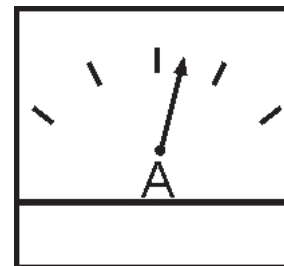

Figure 53. Ammeter (Load)
16. Observe the generator's ammeter (Figure 53) and verify it reads the anticipated amount of current with respect to the load. The ammeter will only display a current reading if a load is in use.